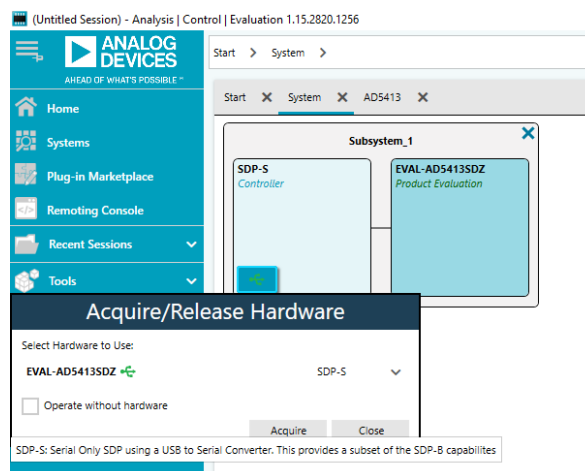

Figure 6. Reconnecting the USB
- Write the initial configuration values to clear these error flags. If the device is power cycled, or if the USB cable is disconnected and reconnected while the **ACE** software is open, contact with the EVAL-AD5413SDZ is lost. To regain contact, click the **System** tab, click the USB symbol on the **SDP-S**, and then click **Acquire** (see Figure 6).